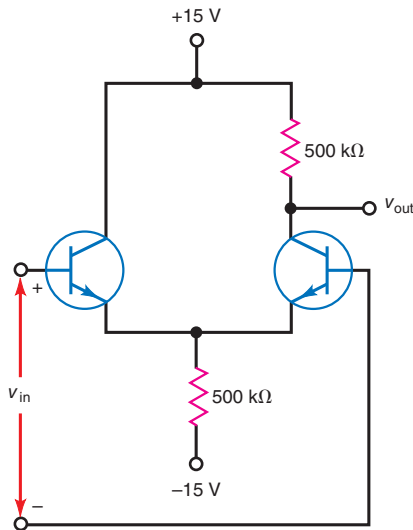

Figure 33-61
33.26 What is the common-mode voltage gain of Fig. 33-61? If a common-mode voltage of $20 \mu\text{V}$ exists on both bases, what is the common-mode output voltage?
- 33.27** In Fig. 33-61, $v_{in} = 2 \text{ mV}$ and $v_{in(CM)} = 5 \text{ mV}$. What is the ac output voltage?